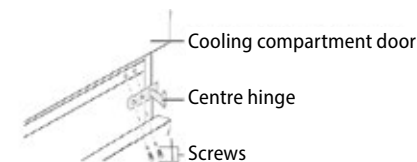

Fig. 2
4. Unscrew the middle hinge and remove the freezer door. Fig.2